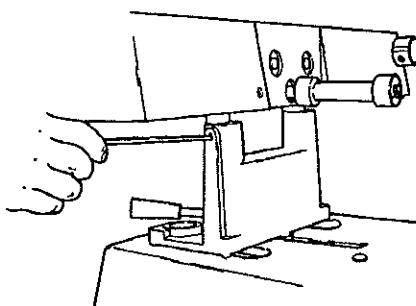

Fig.D-8
12. When you have horizontally aligned the Scroll Saw to the Power Station, tighten both of the carriage's setscrews (22), securing the Scroll Saw tubes. See Fig.D-8.